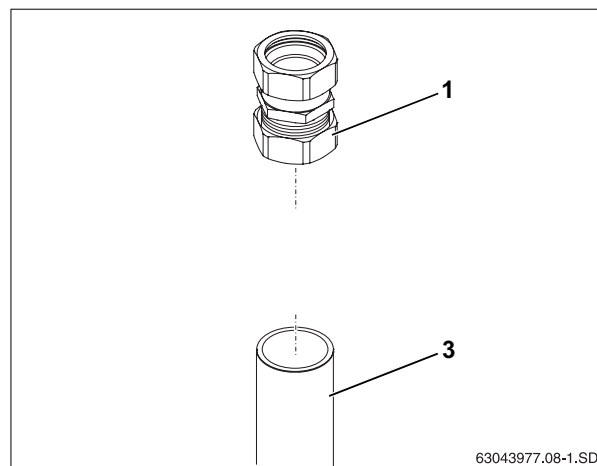

Fig. 7 Installing compression union
- Cut the Twin Tube 1/2" pipes (Fig. 7, **Item 3**) to the correct length so that they can be pushed 0.8-1.2 inch (2-3 cm) inside the compression fittings (Fig. 7, **Item 1**).
If it is necessary to extend individual pipe sections, this can be done by means of the compression fitting (Fig. 7, **Item 1**).
- Insert the support ferrules (Fig. 7, **Item 2**) into the Twin Tube 1/2" pipes (Fig. 7, **Item 3**).
- Push the shortened Twin Tube 1/2" pipes (Fig. 7, **Item 3**) as far as possible into the prepared compression ring connections.
- Lock the union nut against the compression fitting (Fig. 7, **Item 1**) using a suitable spanner.